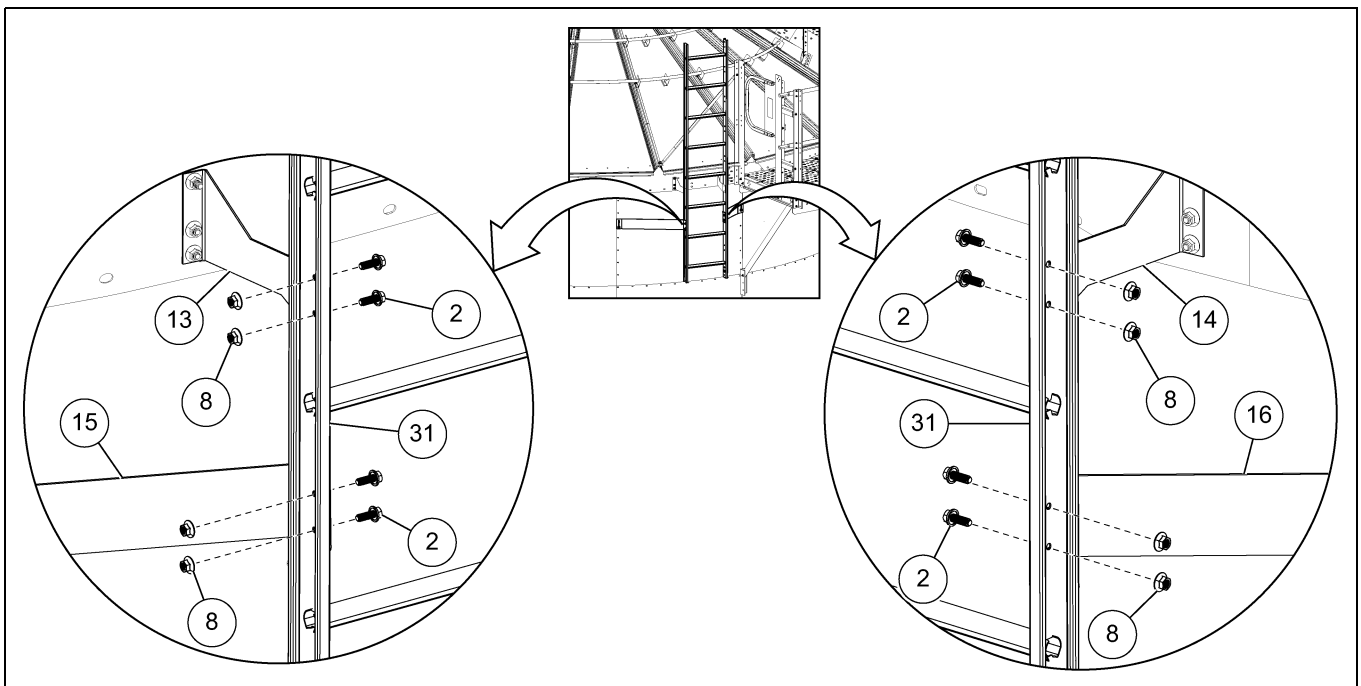

**Figure 7B** *Installing the Ladder Brace Brackets*
2. Install the slotted end of the left ladder brace bracket (15) and right ladder brace bracket (16) to the vertical channels using 5/16" x 1" flange bolts (2) and 5/16" flange nuts (8). (See Figure 7B.)